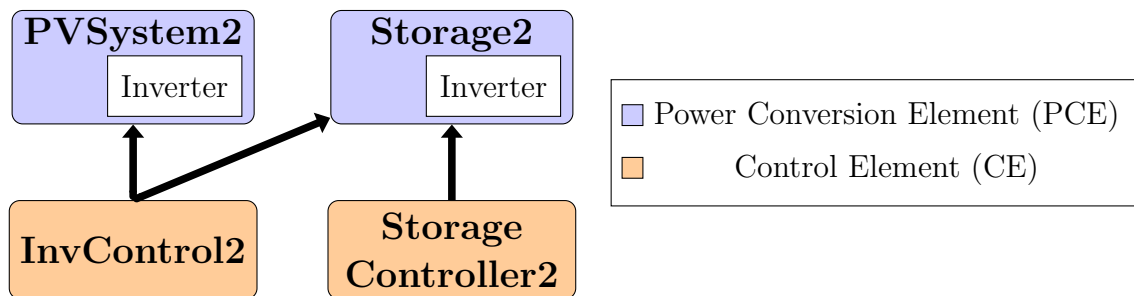

Figure 1: Relation between PVSystem2, Storage2, InvControl2 and StorageController2 elements
- Possibility to be controlled by an InvControl2 control element in a similar way to PVSystem2 element, including the possibility of being controlled simultaneously by a StorageController2 and an InvControl2 (see Figure 1);